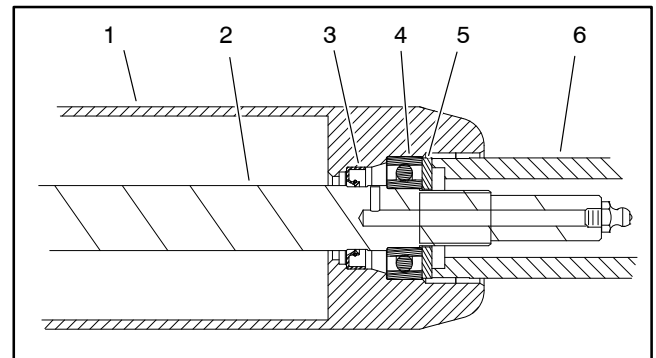

Figure 52
B. Use washer and bearing/outer seal tool (see Special Tools) with a soft face hammer to fully seat bearing (Fig. 52). After bearing installation, make sure that shaft freely rotates and that no binding is detected. If necessary, lightly tap bearing and/or shaft ends to align shaft and bearings. Remove washer from roller.